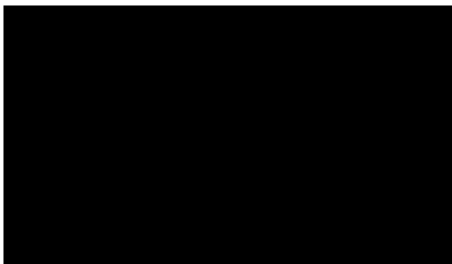

Figure 4
- Connect another end of cable to load panel and connect load panel to existing factory load panel. Load panel must contain earth leakage circuit breaker such as figure 4.